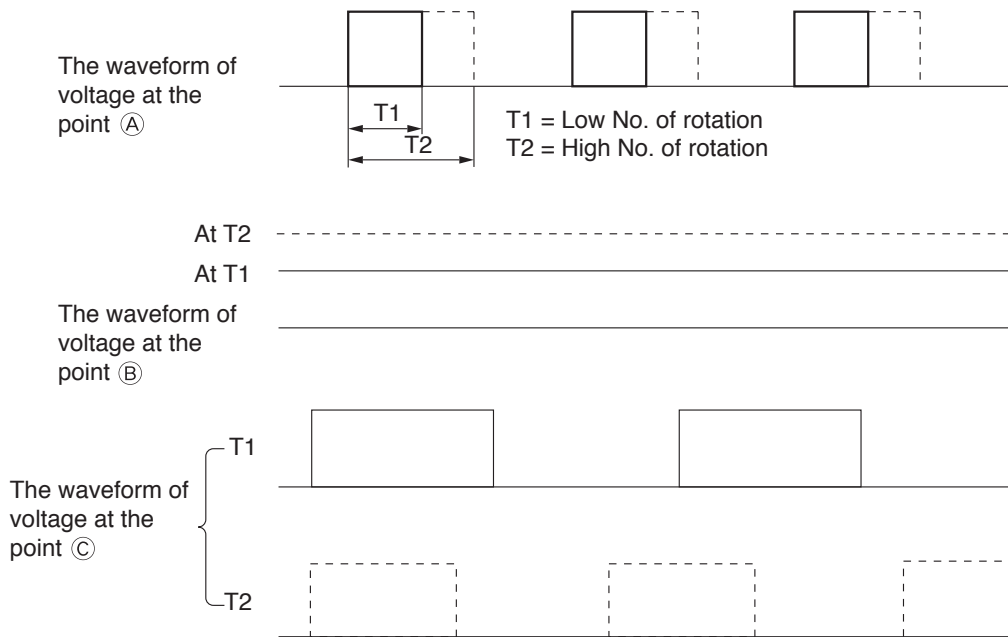

Fig. 5-2
- The 15.7 kHz PWM pulse shown in Fig.5-2 from the micro-computer pin ④⑩ is output to point ①. The width of this pulse changes with instruction number of rotations.